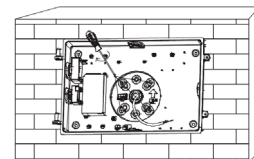
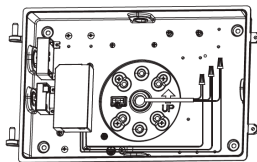

Fig. 1.6
Fig. 1.7
6. Affix the mounting plate with screws (Fig. 1.6) and connect the wires (L, N, G) to the power supply. (Fig. 1.7)